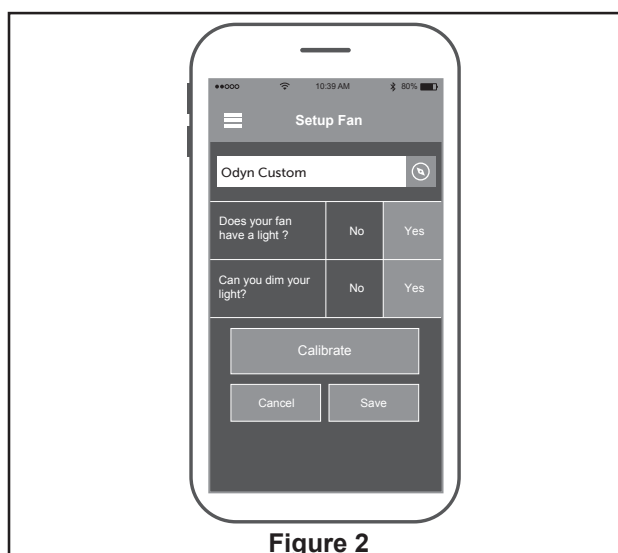

Figure 2
2. Press Save and your fan will be ready to operate (Figure 2)